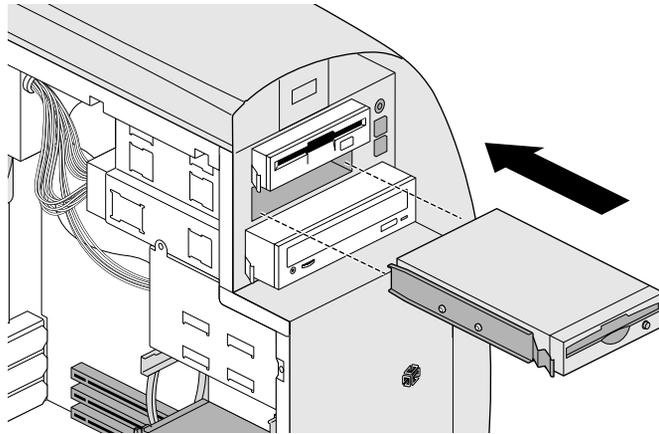

Figure 4-5 Installing a Removable Media Drive
8. Slide the drive into the drive bay until it snaps into place, as shown in Figure 4-5.